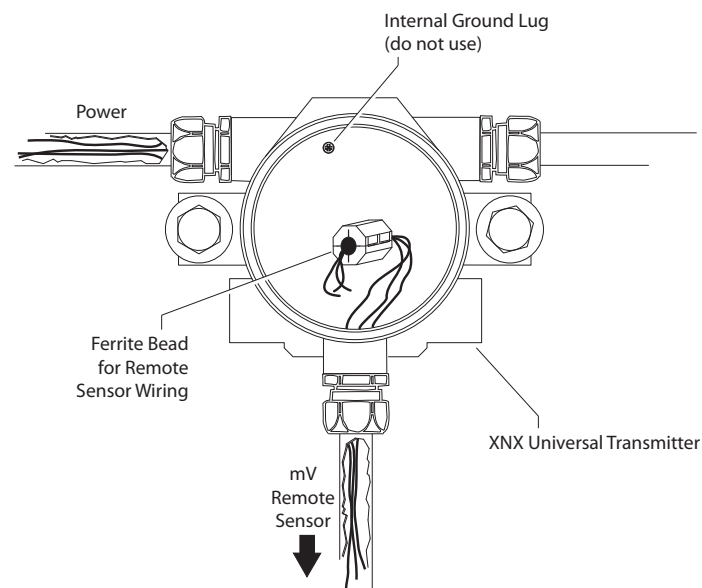

Figure 46. Ferrite bead wiring
- Wire the pluggable terminal block as shown in the **mV personality board** illustration then plug the connector into the back of the mV personality board. In remote mount MPD configurations, the 3 wires connecting the pluggable terminal block and the remote MPD must be routed through the supplied ferrite bead (Honeywell Analytics part no. 0060-1051, supplied in the accessory kit) as shown in **Figure 46**.
12. At the transmitter, pass the wires through the ferrite bead as shown in Figure 46 and terminate the wiring at the pluggable terminal block as shown in Figure 44.